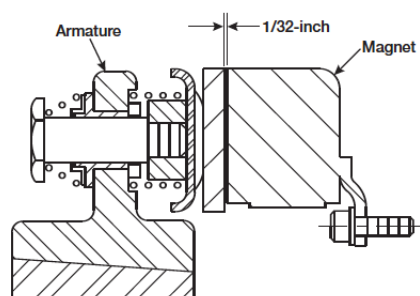

Figure 10
3. Place the face of the armature approximately 1/32" from the face of the magnet. Once this gap is set, it will be automatically maintained throughout the life of the unit. (Figure 10)